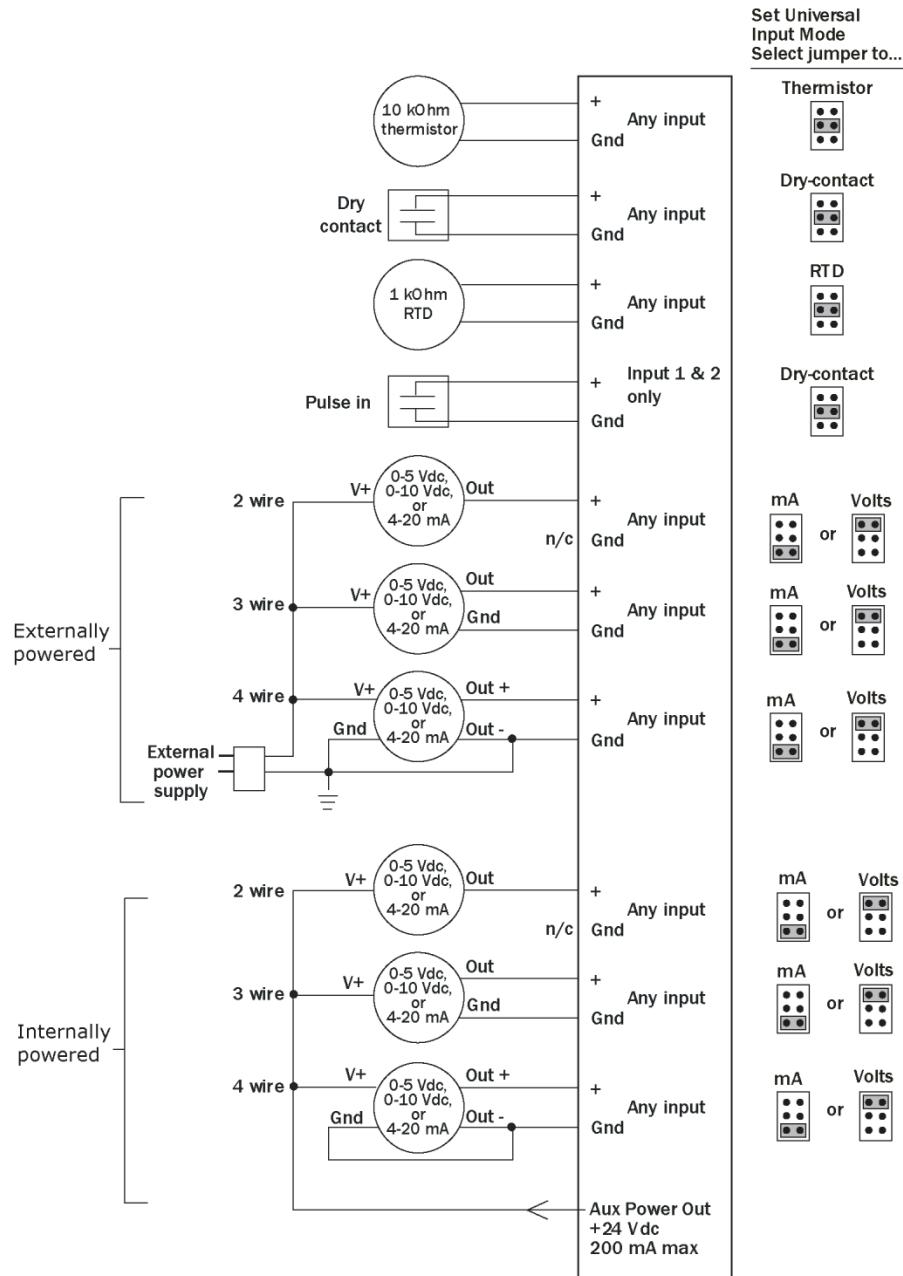

Fig. 2 — UC Open XP Typical Wiring
2. Connect the input wiring to the screw terminals on the UC Open XP controller. See Fig. 2 for image of the UC Open XP typical wiring